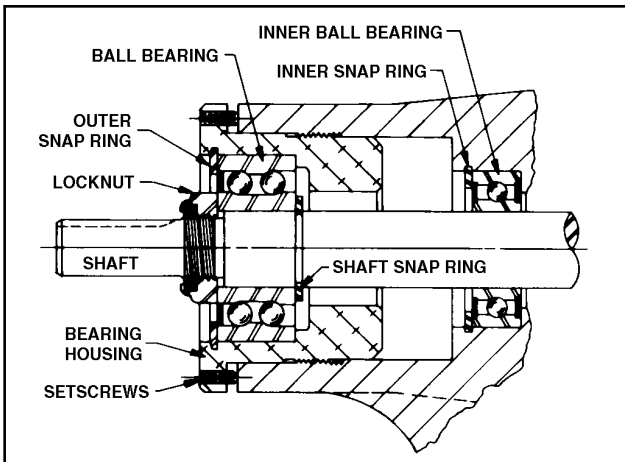
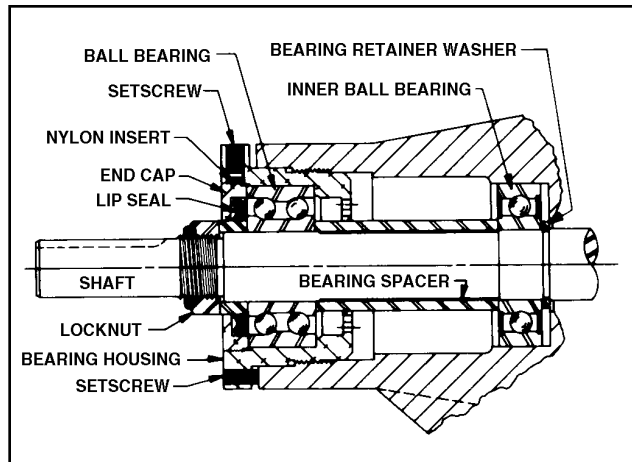

Figure 29 - Thrust-Bearing assembly (GG, HJ, HL)
Figure 30 - Thrust-Bearing assembly (AS, AK, AL)
5. Insert a brass bar or piece of hardwood in the port opening and between the rotor teeth to keep the shaft from turning. Turn the locknut counterclockwise and remove locknut. See Figure 29 or 30.
6. Loosen the two setscrews in the face of bearing housing and turn the thrust bearing assembly counterclockwise and remove from casing. See Figure 29 or 30.
7. **GG, HJ, HL:** Remove the snap ring from the shaft. See Figure 29. **AS, AK, AL:** Remove the bearing spacer from the shaft. See Figure 30.
10. **AS, AK, AL:** Remove the bearing retainer washer. The washer may have stayed with rotor and shaft when removed or is against ball bearing. See Figure 30.
**GG, HJ, HL:** Remove outer snap ring from the bearing housing and remove the ball bearing. See Figure 29.
**AS, AK, AL:** Loosen the two set screws in flange outside diameter. Rotate end cap and lip seal counterclockwise and remove. Remove the ball bearing. See Figure 30.
13. **GG, HJ, HL:** Install the shaft snap ring in groove in the shaft. See Figure 29.
**AS, AK, AL:** Install the bearing spacer over the shaft and against the single row ball bearing. See Figure 30.
14. Pack the lubrication chamber between the inner ball bearing and double row ball bearing in the thrust bearing assembly approximately one-half full of multi-purpose grease, NLGI #2. The thrust bearing assembly will take the remaining space. See Figures 29 and 30.
**GG, HJ, HL:** Install the ball bearing into the bearing housing with shield side toward the coupling end of the shaft. See Figure 29. Install the snap ring into bearing housing to retain ball bearing. This snap ring has a tapered edge to fit tapered groove in bearing housing. The tapered edge is located away from the ball bearing.
**AS, AK, AL:** Install the ball bearing into the bearing housing. Install the lip seal in the bearing housing end cap. The lip should face towards the end of the shaft. Put the bearing spacer collar in the lip seal and install in the bearing housing and tighten the set screws securely. See Figure 30.
Loosen two screws in face of thrust-bearing assembly. See Figures 29 and 30.